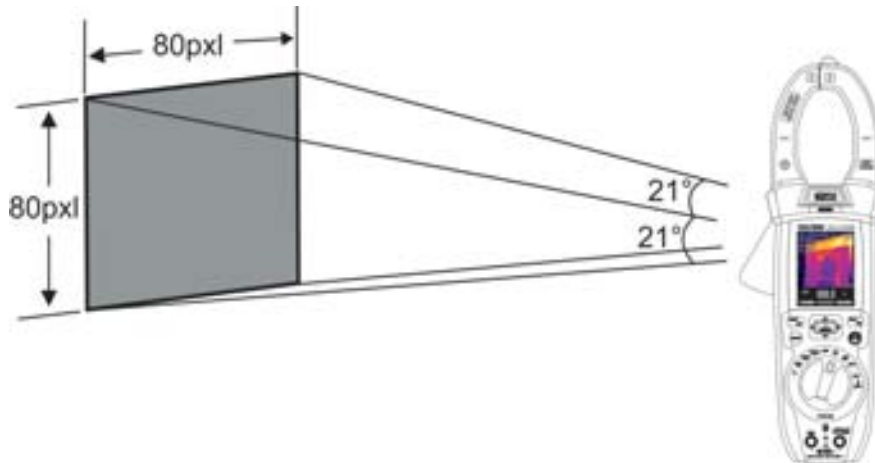

Fig. 43: Representation of the field of view (FOV) of ECLIPSE
7. For accurate temperature measurements, make sure the surface of the measured object is always bigger than the surface measurable by the instrument, which is given by the instruments field of view (FOV). ECLIPSE has a field of view of  $21^\circ \times 21^\circ$  and a detection vector of 80x80 (6400) pxl, as described in Fig. 43